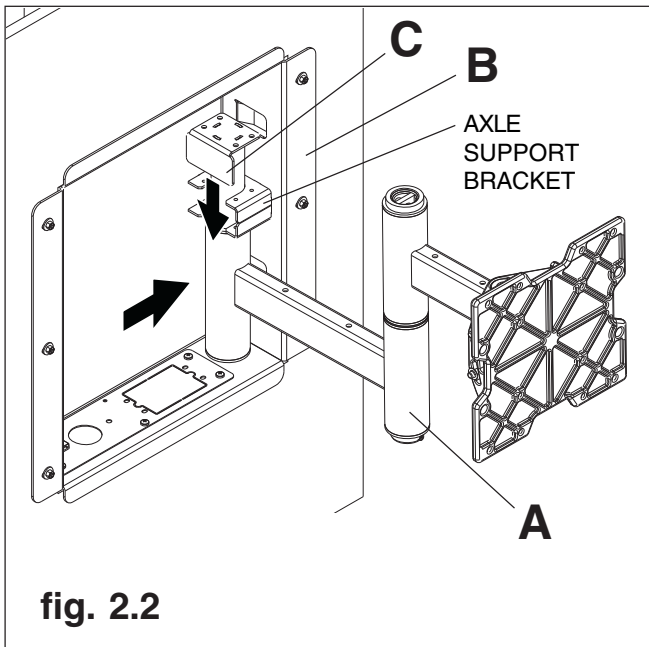

fig. 2.2
Position arm axle (C) and arm assembly (A) into axle support bracket of in-wall box (B) then seat arm axle through bottom hole of in-wall box as shown in figure 2.2.